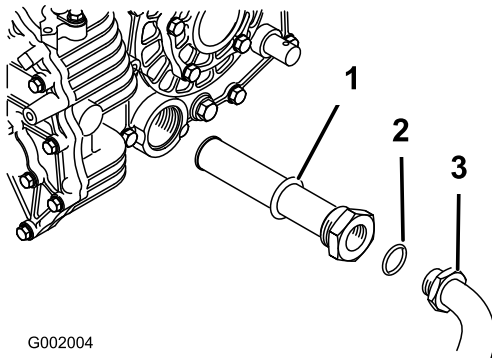

Figure 70
- Remove the hydraulic hose and 90 degrees fitting (Figure 70).